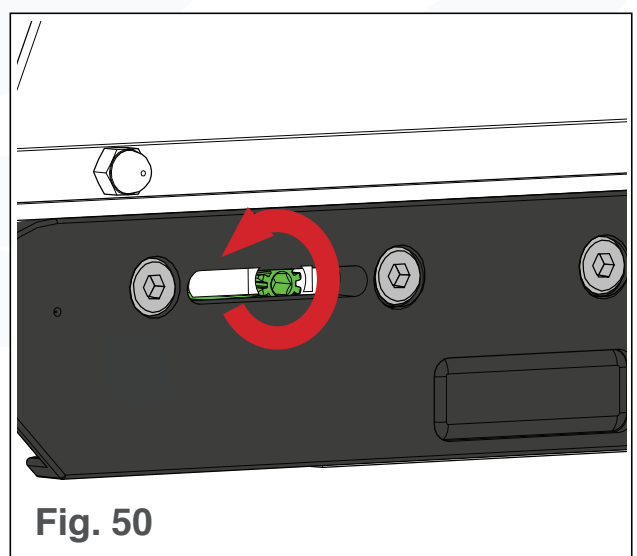

Fig. 50
4. Using a  $\frac{3}{16}$ " hex key, rotate the pinion gear in the head plate slot to achieve the desired tension (see Fig. 50). Do not exceed a torque of 25in-lbs on the pinion gear. Over
2. Using a 5mm hex key, loosen the two horizontal tensioning bolts (see Fig. 50). **Do not remove them.**
3. Using a 4mm hex key, tighten the vertical tensioning bolt to 15in-lbs (see Fig. 50).